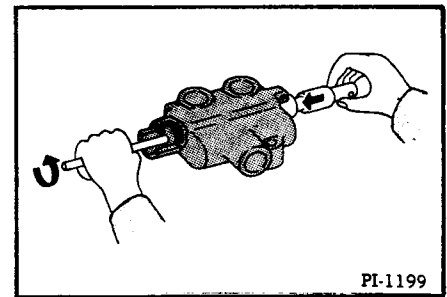

Fig. 124 Installing New Back Seal
6. Replace the spool, through the front of the housing, being sure that the end having the spring assembly mounting (tapped) hole enters the housing first (Figure 124). Push the spool into the valve until the spool end touches the back seal groove. Insert a new seal in the back groove, being careful that the "U" cup of the seal is placed in toward the valve body. It will be very helpful to pinch one side of the seal, causing the seal to bend into a shape slightly smaller than the seal groove in the valve. When the seal has been properly placed in the seal groove, straighten the seal by running a smooth rod around the exposed surface of the seal until you have a perfect fit (Figure 124). To check this, run your finger around the exposed edge of the seal. You should have a smooth perfect fit.